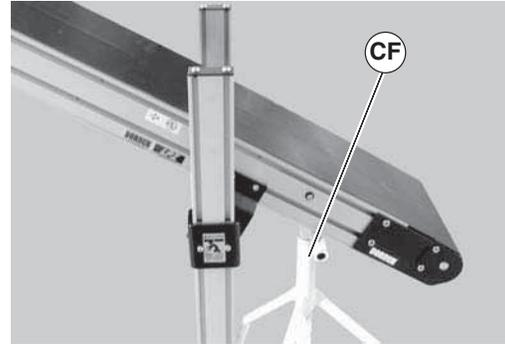

Figure 53
- Place temporary support (Figure 53, item CF) under conveyor sections.